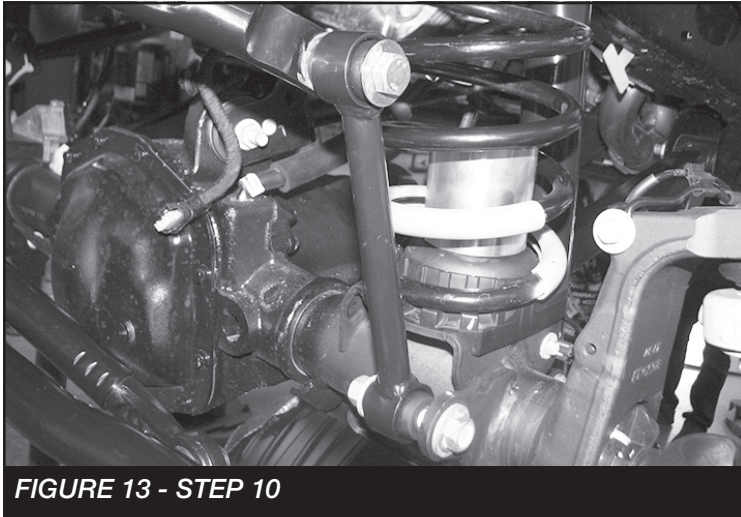

FIGURE 13 - STEP 10
10. Install FT50048 (Bushings) and FT404739 (Sleeves) into FT50261BK (Sway bar links). Then, install the links to the axle mount and sway bar using the supplied M12 x 70mm hardware for the upper location and the factory for the lower. Torque to 100 ft-lbs. **SEE FIGURE 13**